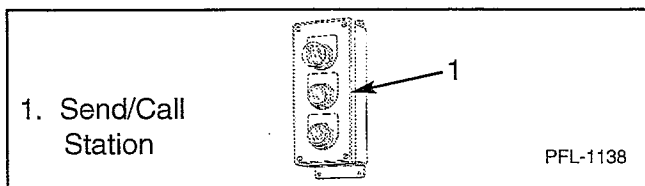
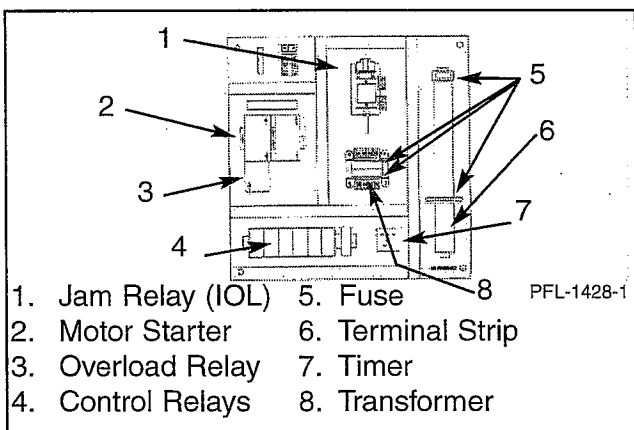

Figure 13
Figure 14
1. When the desired floor level button is pressed (Figure 13), the coil in the motor starter magnetically closes the high voltage contacts, and the power circuit to the motor starter (Figure 14) is completed to turn the motor in the needed direction.